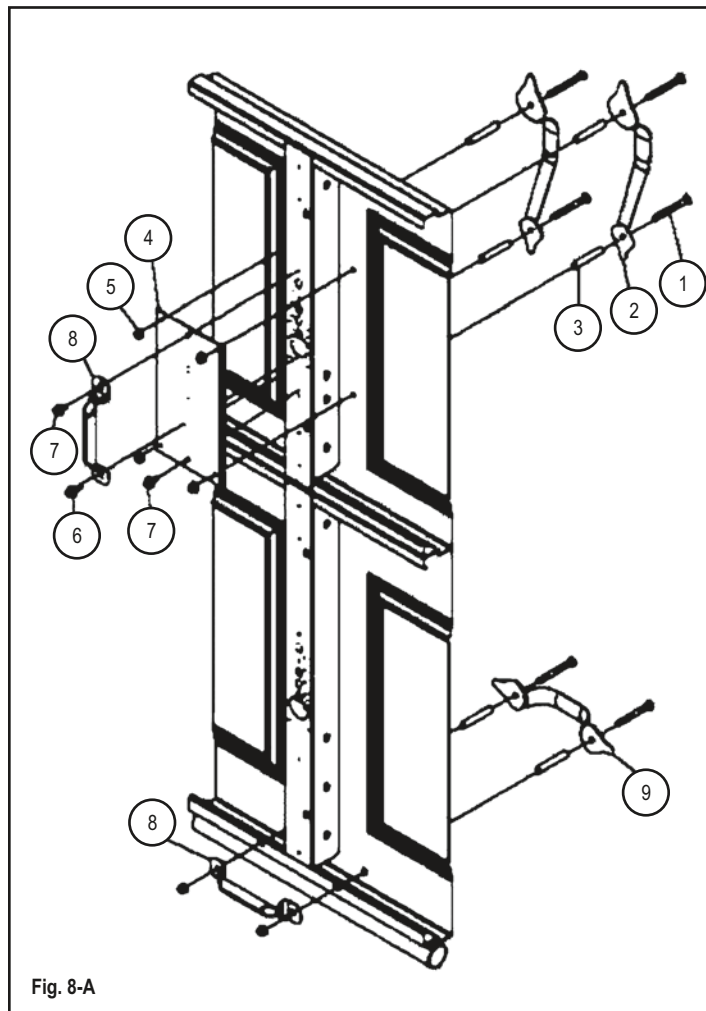

Fig. 8-A
Step 8-8: If you have a single handle as shown in Fig. 8-B, skip to Step 8-9. Attach the handle backer plate (4) to the stile with two 3/4" hex head sheet metal screws (7) going into the center stile. The top sheet metal screw will also pass through the top hole of the roll bar handle (8). (Fig. 8-A)
Step 8-9: Slide the black headed 1/4" carriage bolt (1) through the vertical spade handle (2), the handle spacer (3), the front of the section, the back of the stile or the handle backer plate (4), roll bar handle (8 if applicable) and finally secure with 1/4" flange nut (5). (Fig. 8-A or Fig. 8-B)
Step 8-10: Take a 3/4" hex head self-tapping screw (6) and drill it through the open hole of the roll bar handle (8) into the stile by passing through the hole in the handle backer plate (4 if applicable). (Fig. 8-A or Fig. 8-B)